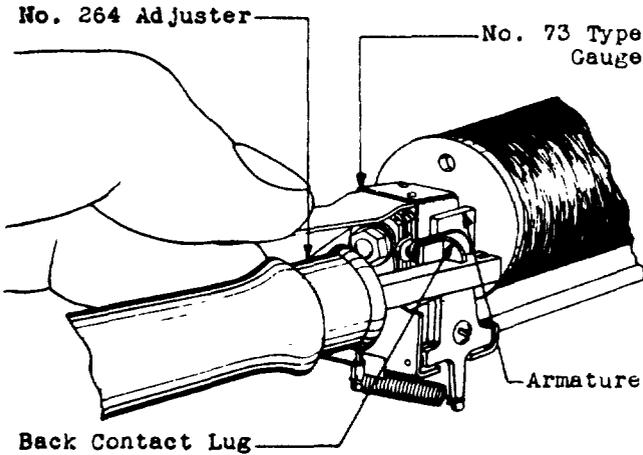

Fig. 5 - Adjusting Unoperated Armature Air-gap
(1) Unoperated Armature Air-Gap: To change the unoperated armature air-gap, insert the proper gauge between the armature and pole face and adjust the back contact lug to the right or left as required with the No. 264 adjuster as shown in Fig. 5. Do not adjust the armature contact lug. Twisting the adjuster to the left decreases the gap and twisting it to the right increases the gap. In using the gauges, insert the "enter" gauge, corresponding to the minimum limit of the gap specified for the relay being adjusted, and adjust the lug so that the gauge can be inserted and withdrawn with very little friction. This will insure that the minimum limit is met and the maximum can be checked with the "not enter" or thicker blade of the gauge. The "not enter" end of the No. 73B gauge may enter with little friction on relays requiring this gauge.
(2) Contact Separation: To change the contact separation adjust the front contact lug to the right or left as required. Do not adjust the armature contact lug. Adjust the lug to the left to increase the separation and to the right to decrease the separation. Use the No. 485A pliers to adjust the front contact lug to the left. Apply them over